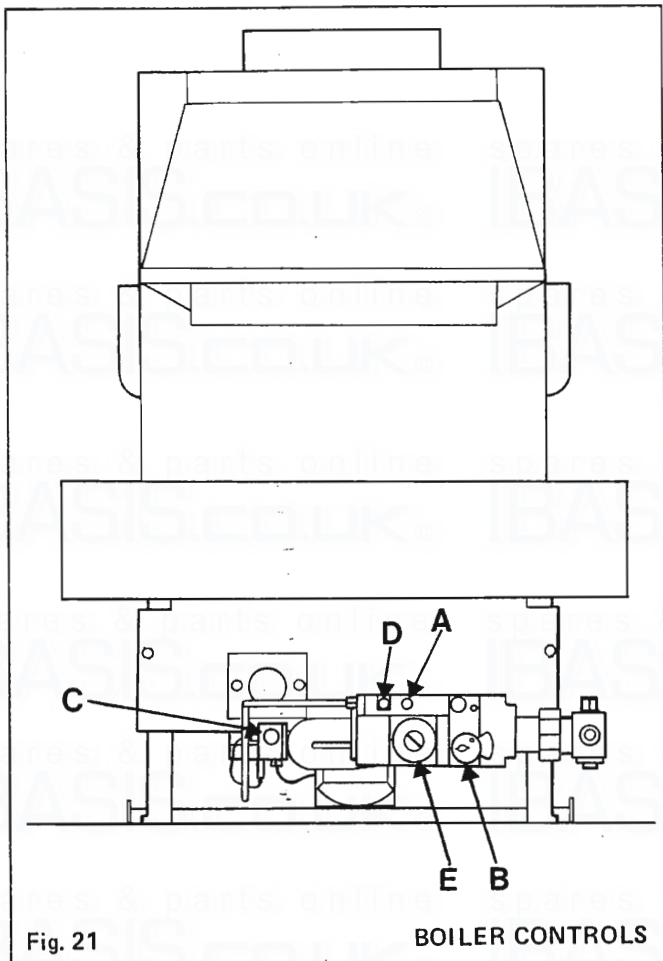

Fig. 21
– Refer Fig. 21
Turn the adjuster screw (D), Fig. 21, ANTI-CLOCKWISE to INCREASE the flame and CLOCKWISE to DECREASE it.
Any required adjustments should be made by using the burner setting pressure adjustment screw (E), illustrated in Fig. 21.